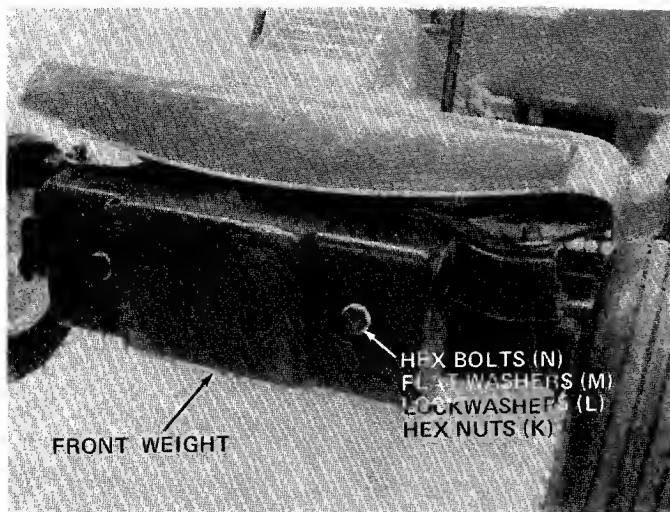

FIGURE 17
18. Place the front weight (35 lbs.) in position on the front weight mounting bracket. Fasten with two hex bolts (N) and flat washers (M) on the outside or front of weight. Secure bolts (N) with lock washers (L) and hex nuts (K). See figure 17.